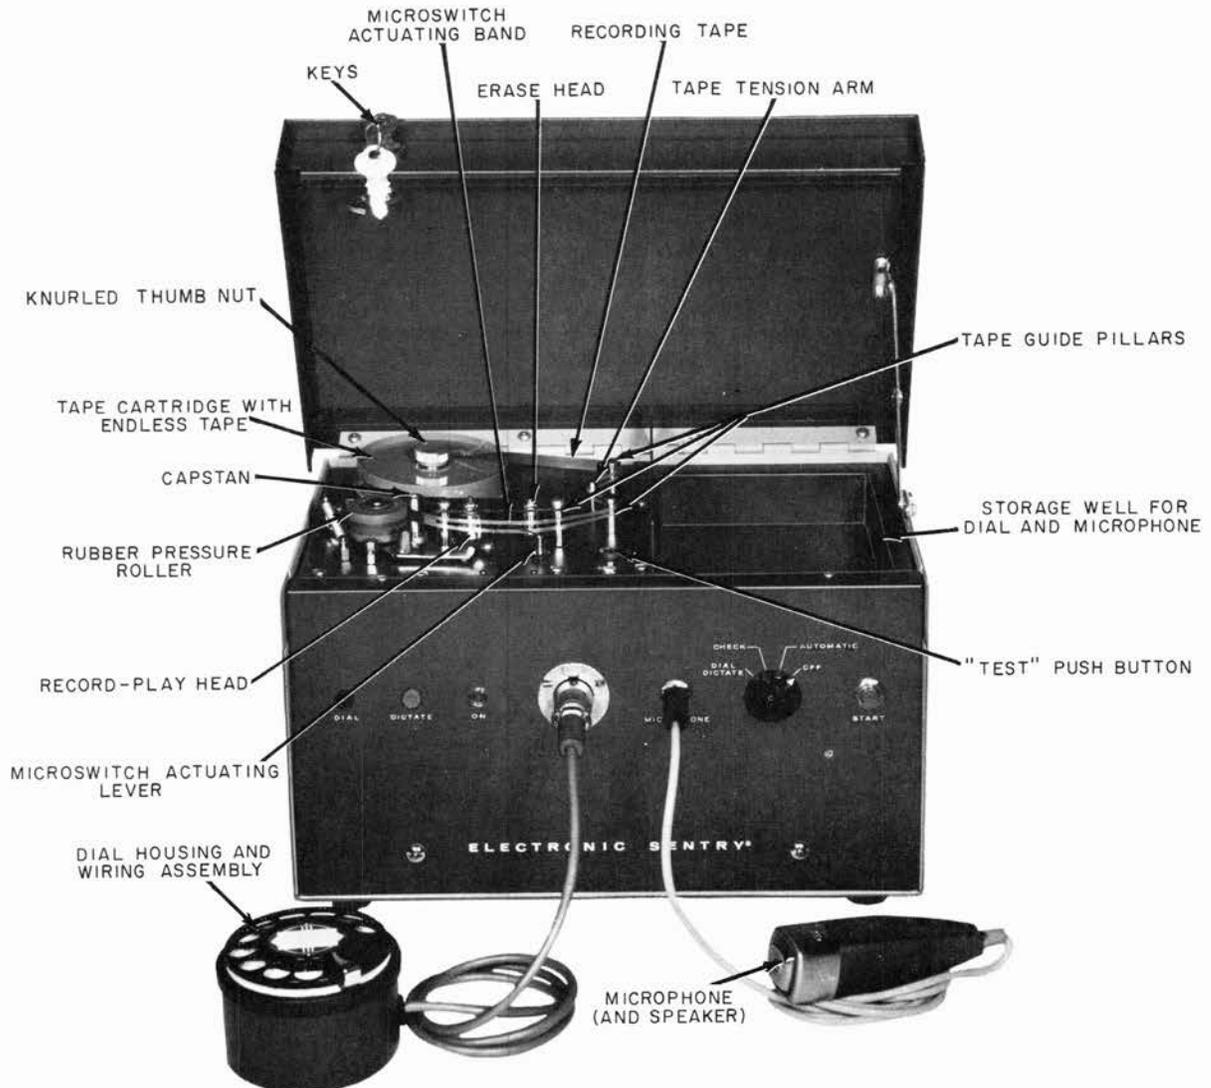

Figure 2. ELECTRONIC SENTRY Model 2 Warning Unit (Front View, Cover up, Microphone and Dial Connected).
1.06 A dial unit and dynamic microphone are ordered separately. Both of these units are easily removable, and are the means by which the customer records both the telephone number to be called and the warning message to be delivered (see Figure 2). Both the telephone number and the warning message are recorded on an endless, magnetic recording tape. The customer can "check" his warning message by playing it back through the microphone.
1.10 Cycling of the unit is controlled by a microswitch whose actuating lever either drops into, or is raised out of a slotted section in the recording tape (see Figure 2).
2.03 Open the lid and remove the thumb nut on the tape cartridge post. Place the loaded tape cartridge on the post ("D" shaped spindle) and replace the thumb nut (Figure 2).
3.01 The Model 2 performs the following three basic functions: (1) Dial and Dictate; (2) Check; and (3) Automatic. The following paragraphs, in conjunction with Figure 2 explain the basic functions. The information contained in this part should be referred to when instructing the customer on the operation of his unit.